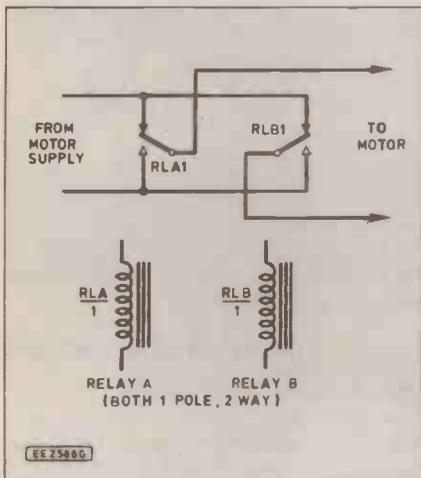

Fig. 7.4. Alternative relay circuit.
**T** There is such a circuit which can be used if you prefer (Fig. 7.4). In fact, we can use it on our model, for these relays are easier to use, and cheaper! But, of course, the output logic has to be designed to suit whichever relays we select.